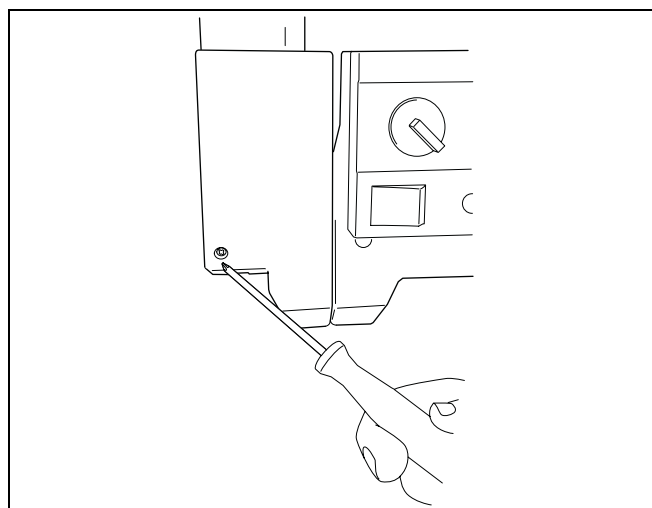

fig. 23 Connection box cover
- Open the connection box (see fig. 23).